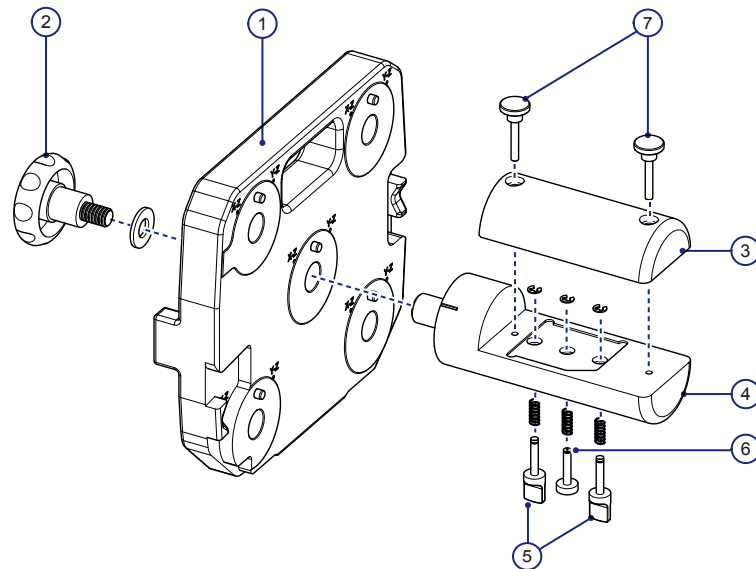

Figure 1.25 Exploded view of the Film Holder Tool
- 5 Attach the clamp (3) on the housing and tighten the two film fixation screws (7), see Figure 1.25. Tighten the screws simultaneously to get equal pressure on the film.